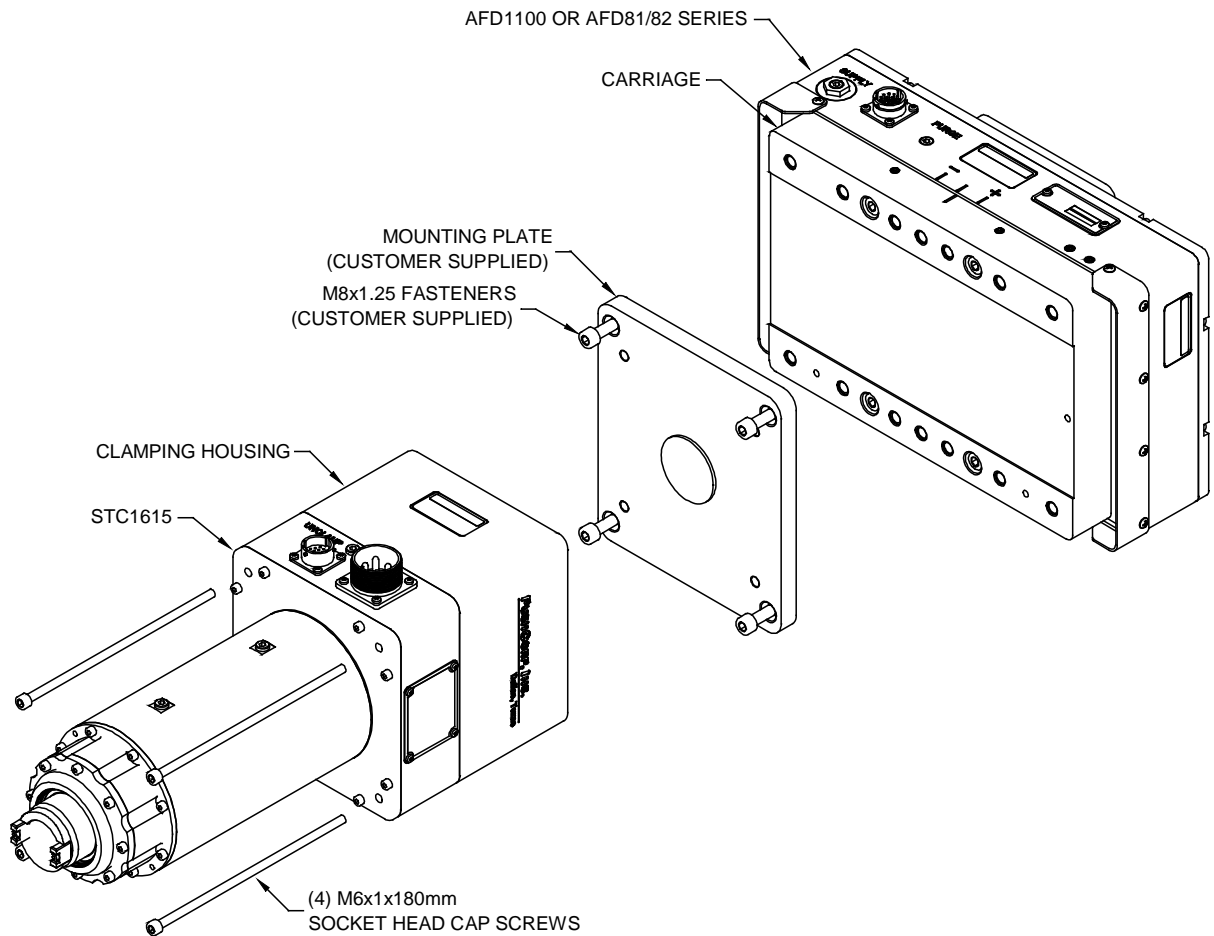

Figure 1. STC1615 Perpendicular-Axis Configuration
To attach the STC1615 to an AFD in a Perpendicular-Axis configuration, position the Clamping Housing over the Carriage as shown in Figure 1. Then secure the unit using four (4), M6x1x180mm, Socket Head Cap Screws. Tighten the fasteners to the torque specified in Section 4.0.